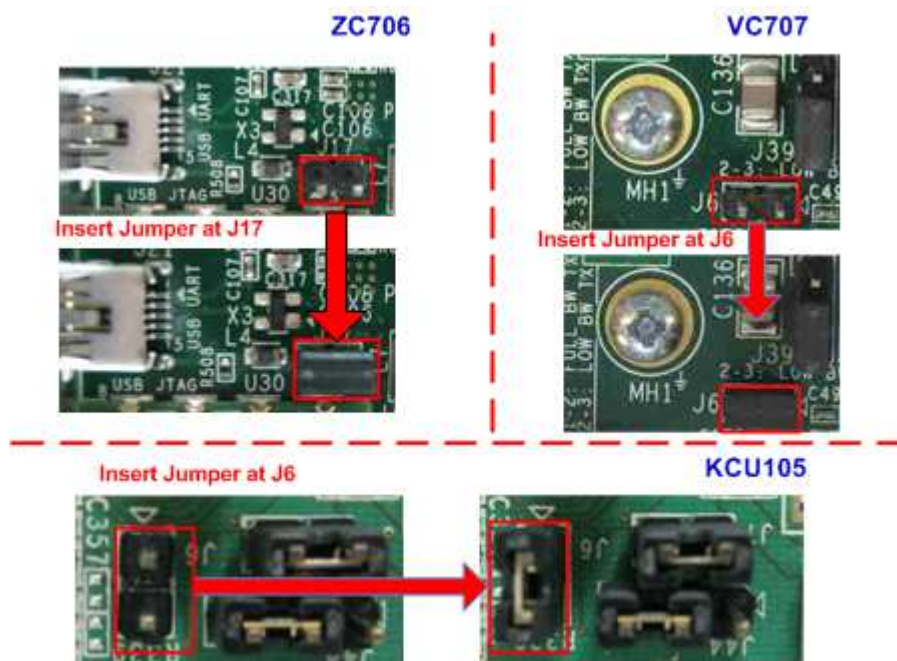

Figure 3-1 Insert jumper to enable SFP+
- 1) Insert jumper to enable SFP+ (J17 for ZC706, or J6 for VC707/KCU105), as shown in Figure 3-1.